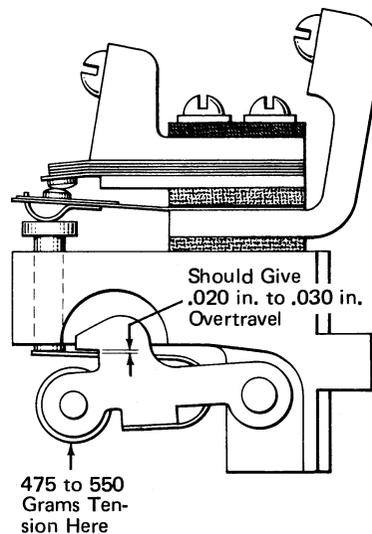

Figure 3-21. Plunger Circuit Breaker, Roller Cam Follower—Adjustment 3
3. When measured at the roller, 475 to 550 grams should be required to close the contacts with a .020-inch to .030-inch overtravel (Figure 3-21).